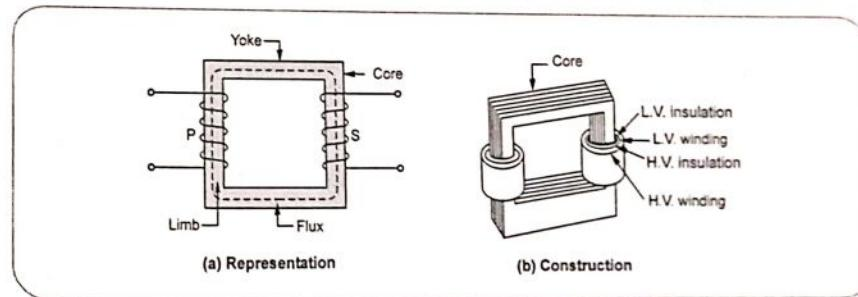

Fig. 5.4.1 Core type transformer
- The Fig. 5.4.1 (a) shows the schematic representation of the core type transformer while the Fig. 5.4.1 (b) shows the view of actual construction of the core type transformer.